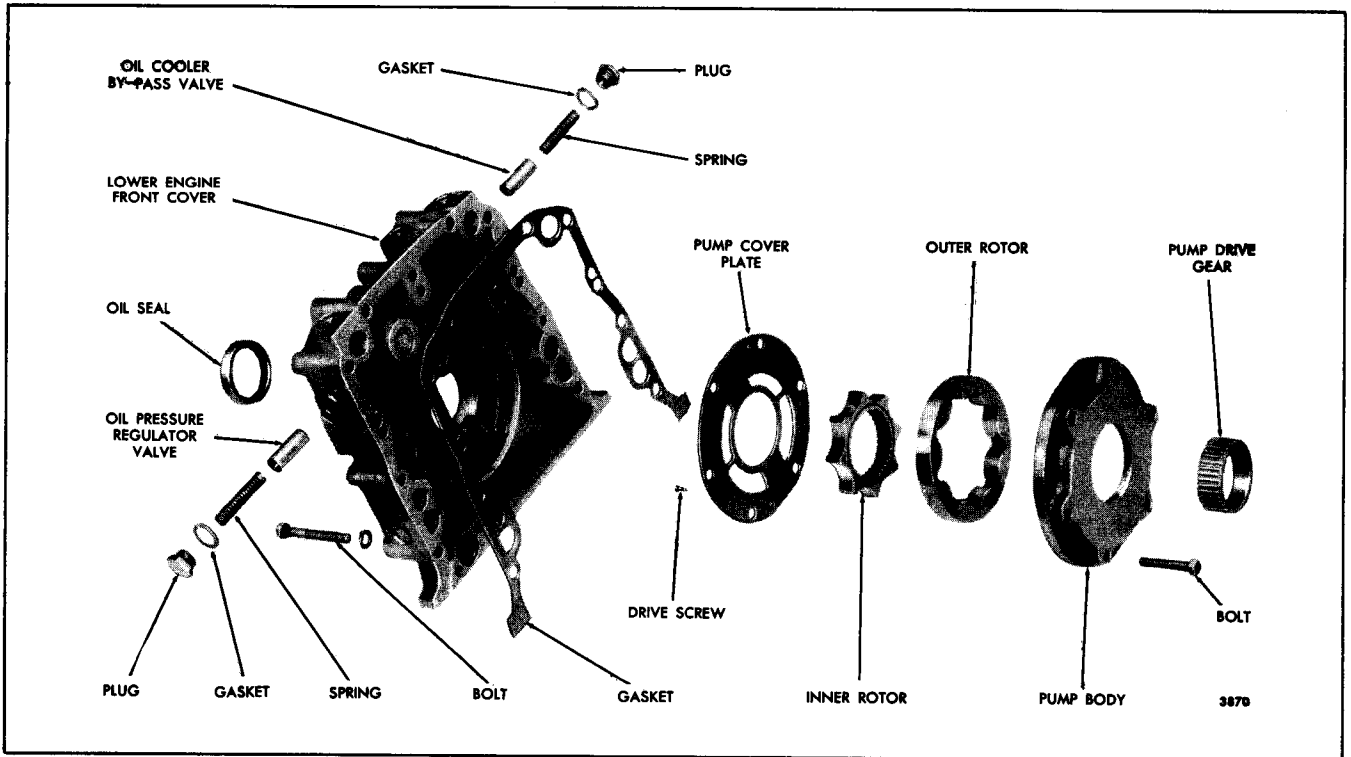

Fig. 5 - Oil Pump Details and Relative Location of Parts (Current)
1. Refer to Fig. 5 or 6 and remove the two drive screws holding the pump cover plate to the pump body. Withdraw the cover plate from the pump body.
After the oil pump parts have been cleaned and inspected, refer to Fig. 5 or 6 and assemble the pump as follows: